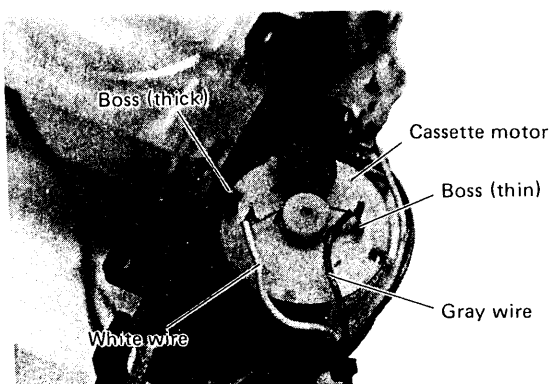

Fig. 2-5 Cassette motor wiring
3. Take out two screws (2) and remove the cassette motor.
4. Replace the cassette motor and reassemble by reversing the above steps. Use care regarding the motor wires polarity (see Fig. 2-5).